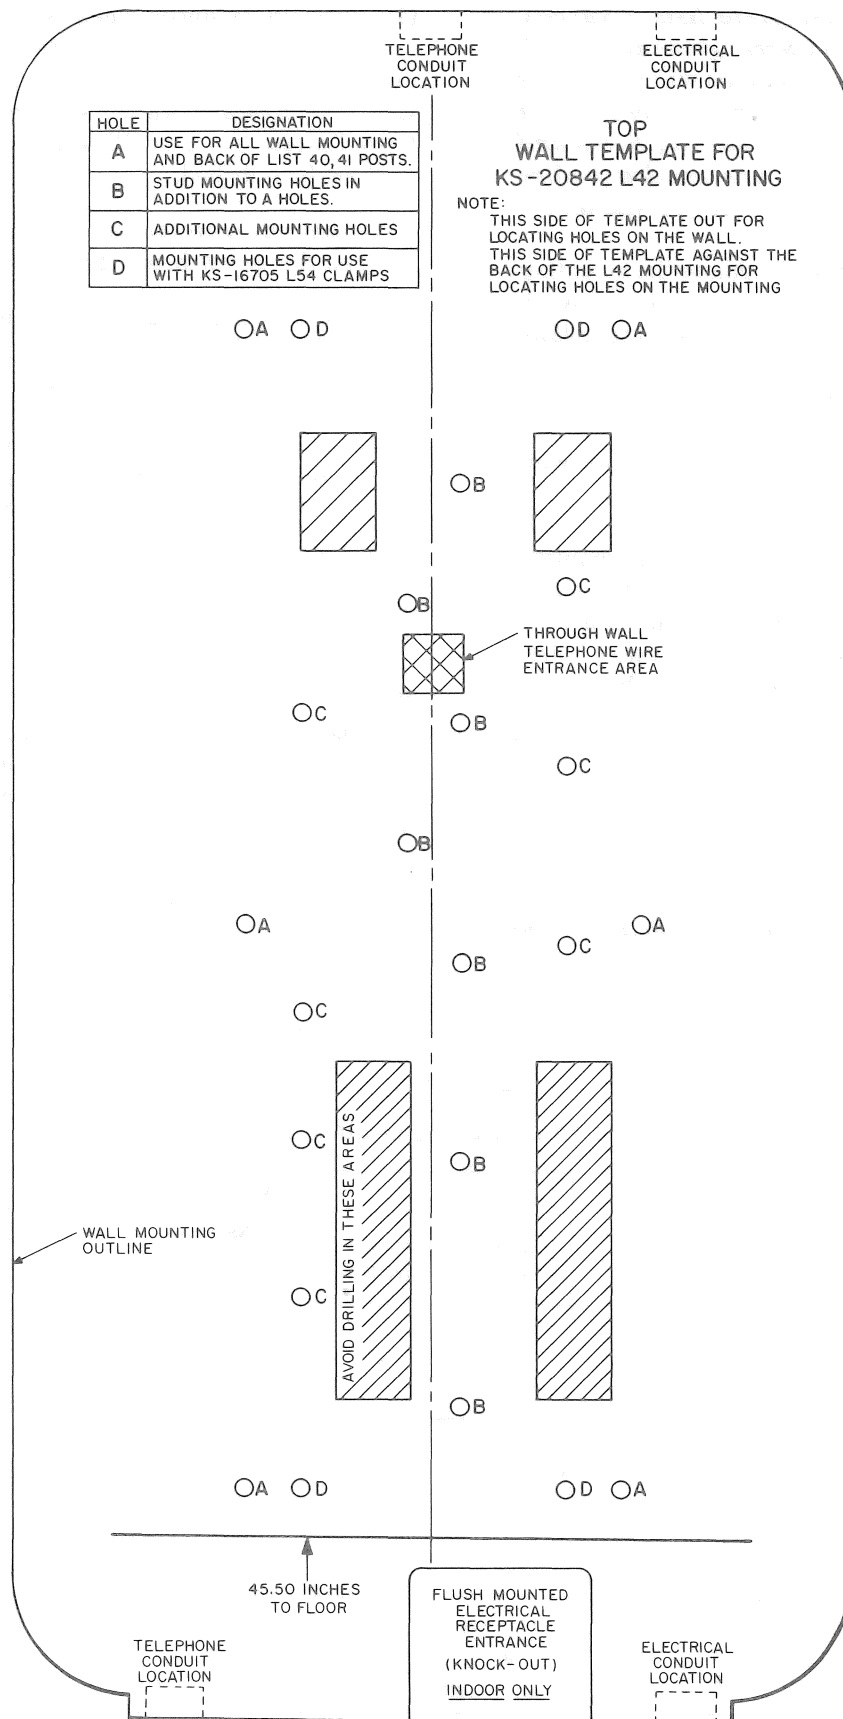

Fig. 23—L-765087 Template for Mounting a KS-20842, List 42 Wall Mounting
- (1) Place the paper template, L-765087 (Fig. 23), furnished with each mounting at proper height on wall. The 45.50 inch template line should be that distance from the floor which will place the bottom of the mounting 42 inches from the floor. Mark location of holes through template on to the mounting surface to be drilled.